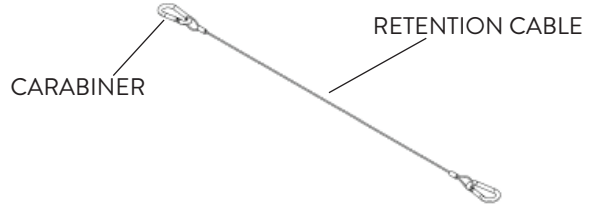

FIG. 21
- 1 The FHZL Safety Retention Cable is necessary for the all FHZL fixtures (Fig. 21).